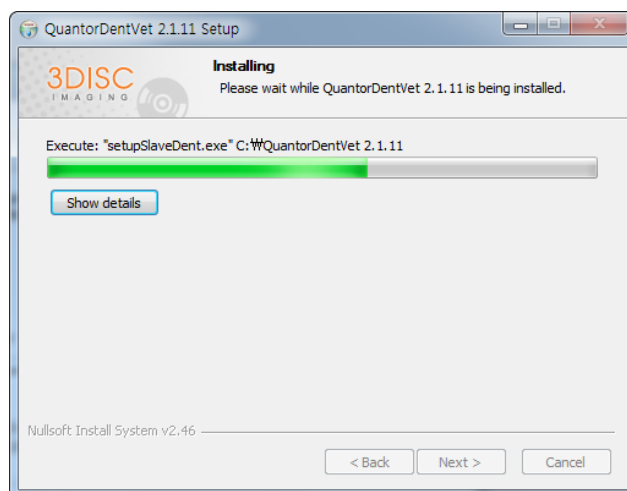

Figure 2.5 Installation Status Dialog Box
- Installation status will be displayed as shown in Figure 2.5.